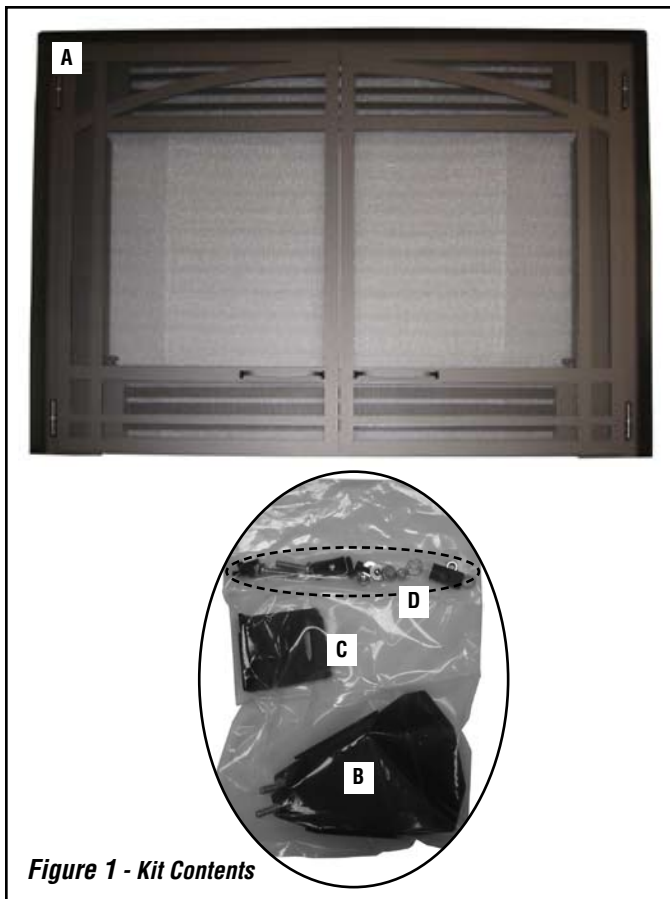

Figure 1 - Kit Contents
KIT CONTENTS (See Figure 1):
Step 1. Ensure the reveal corner is positioned as shown in *Figure 1*. If it needs to be adjusted to the position shown in *Figure 1*, see *Page 12* of the *Installation and Operation Manual*.